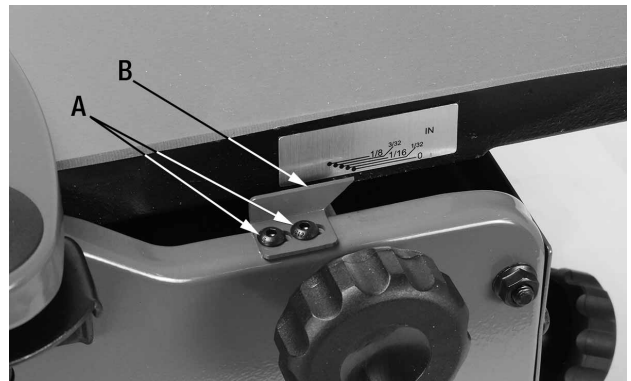

FIGURE 13
- 3) Using a hex. key, loosen the round head allen screws (A) Fig.13 which hold the depth of cut pointer (B) to the cabinet, manually adjust the pointer to read 0 and then retighten the screws (A).